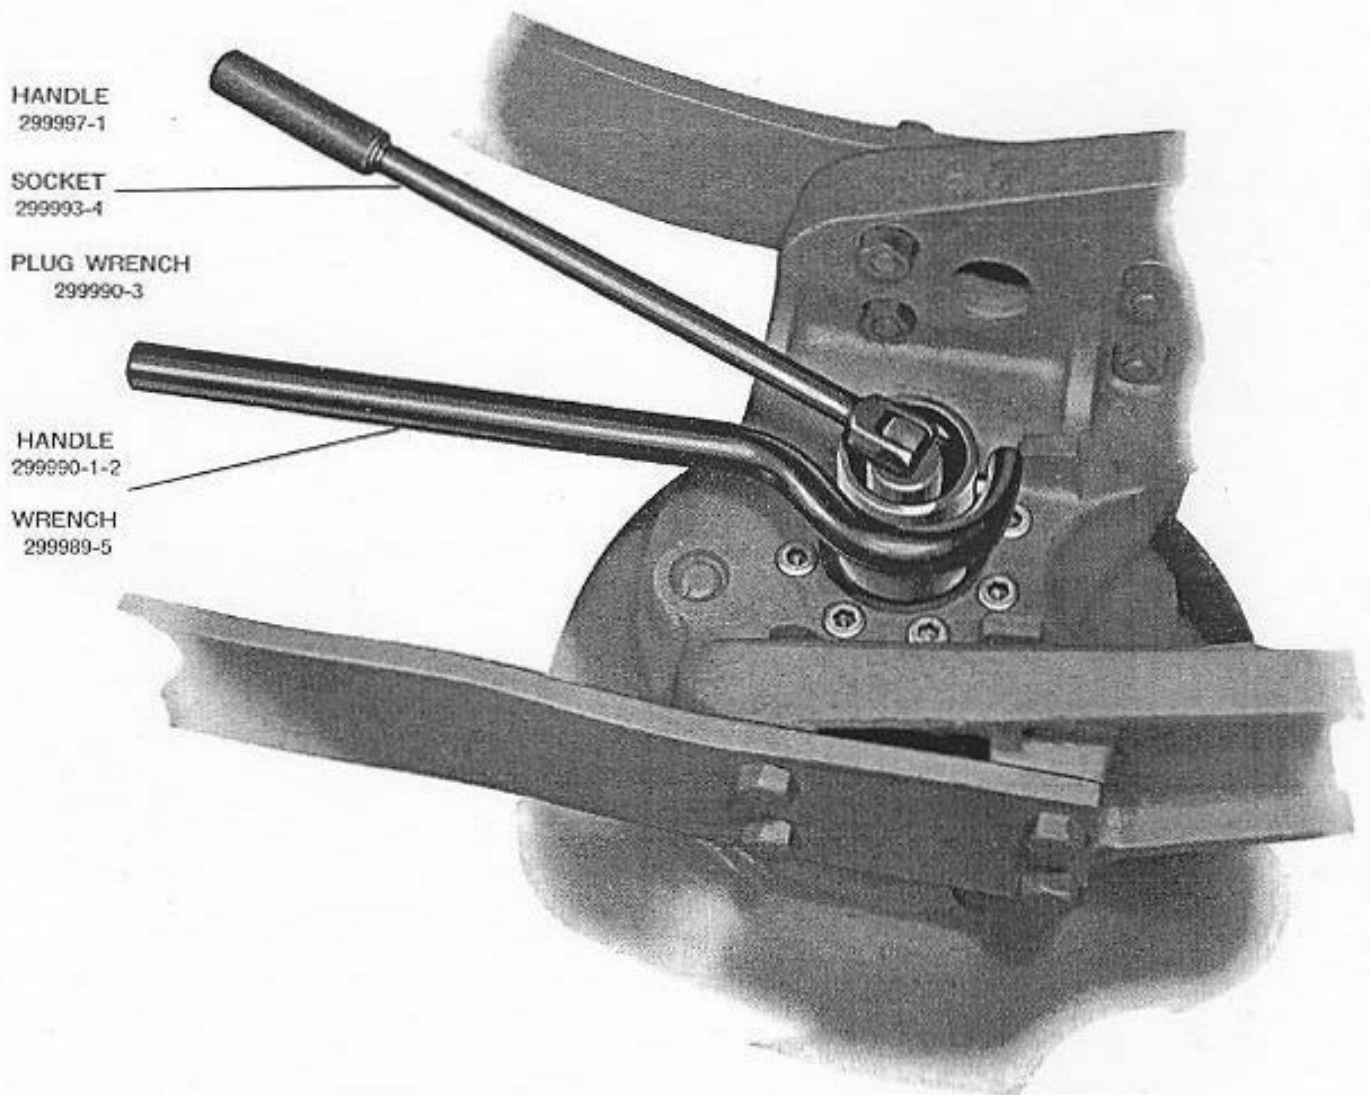

Figure 34—Removing ram spring retainer plug (299930-1)
6. **RAM SPRING RETAINER PLUG (299930-1) REMOVAL**—Place retainer wrench (299989-5) and wrench handle (299990-1) in position on retainer (299929-5) to keep it from turning when removing the plug. See Figure 34. Unscrew and remove retainer plug (299930-1), using retainer plug wrench (299990-3), $\frac{7}{8}$ inch socket (299993-4), and swivel end wrench handle (299997-1). Drilled end of plug wrench (299990-3) is placed over plug valve (299930). Remove plug gasket (299930-2).